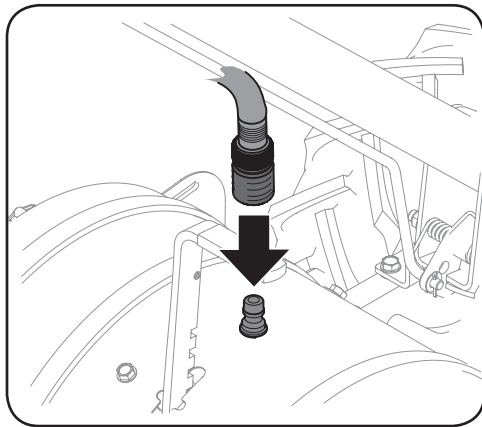

Figure 5-1
4. Attach the hose coupler to the water port on the top of your tine shield. See Figure 5-1.